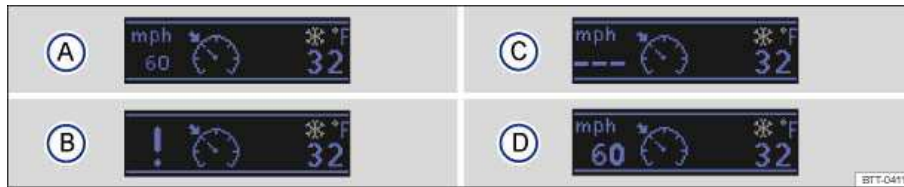

Fig. 130 In the instrument cluster display: Cruise control status indications.
**Status** fig. 130
- (A) Cruise control temporarily deactivated. Stored speed in small numbers.
- (B) System malfunction. See an authorized Volkswagen dealer or an authorized Volkswagen Service Facility.
- (C) Cruise control activated. No speed stored in memory.
- (D) Cruise control is active. Stored speed in large numbers.